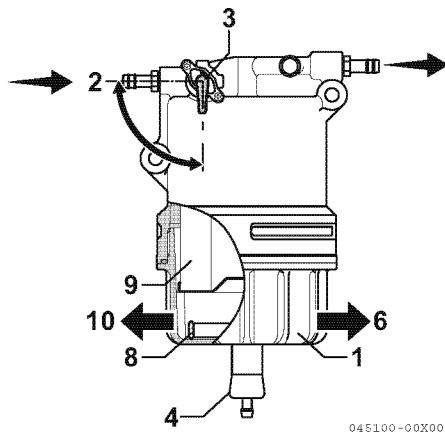

Figure 5-11
1. Position an approved container under the cup (**Figure 5-11, (1)**) of the water separator to collect the contaminants.
2. Close (**Figure 5-11, (2)**) the fuel cock (**Figure 5-11, (3)**).
3. Loosen the drain cock (**Figure 5-11, (4)**) and drain the contaminants. *See Drain water separator on page 5-8.*
4. Turn the retaining ring to the left (**Figure 5-11, (10)**) and remove the cup. If equipped, disconnect the sensor wire from the cup before removing the cup.
6. Remove the float ring (**Figure 5-11, (8)**) from the cup. Pour the contaminants into the container and dispose of it properly.
11. Install the cup to the bracket by tightening the retaining ring to the right (**Figure 5-11, (6)**) to a torque of 27 - 33 N·m (2.8 - 3.4 kgf·m).
13. Open the fuel cock (**Figure 5-11, (3)**).